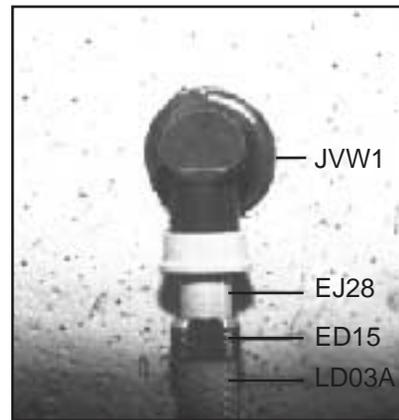

FIG. 1
**Install Wall Fitting.** Install Wall Fitting as shown in Fig. 1. Before putting in wall fitting and attaching feeder hose, be sure to flush the system. Quick Disconnects as shown, are used at all important hose junctions. They are easily snapped on and off.